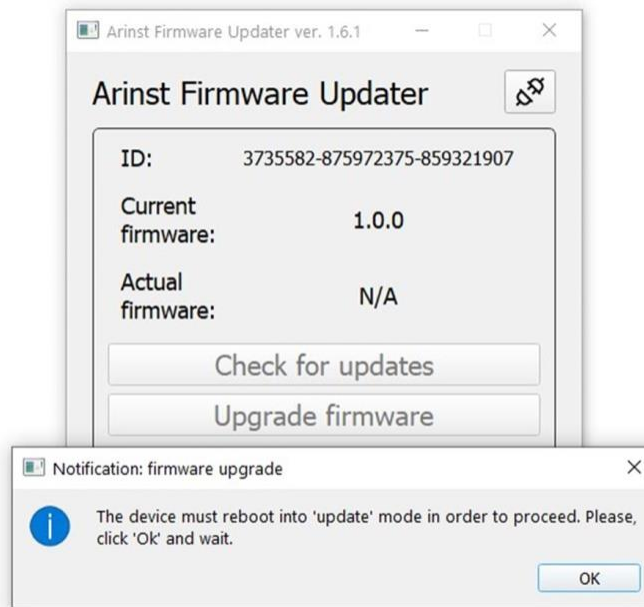

Figure A2.8 – Message from the loader about switching the device to update mode
**Note** – If, when connected, the device was in application mode, it will automatically be reset to the firmware update mode. A corresponding loader message will be displayed on the PC screen (Figure A2.8).